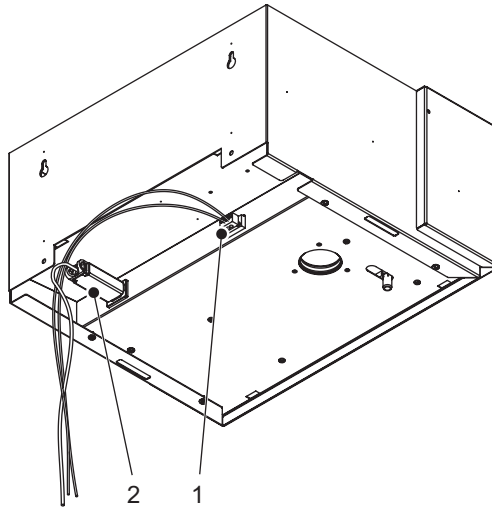

Figure 17: Blower Pack Electrical Connections
- a. Plug the power and security loop cables (supplied) into the back of the blower pack. Refer to Figure 17.